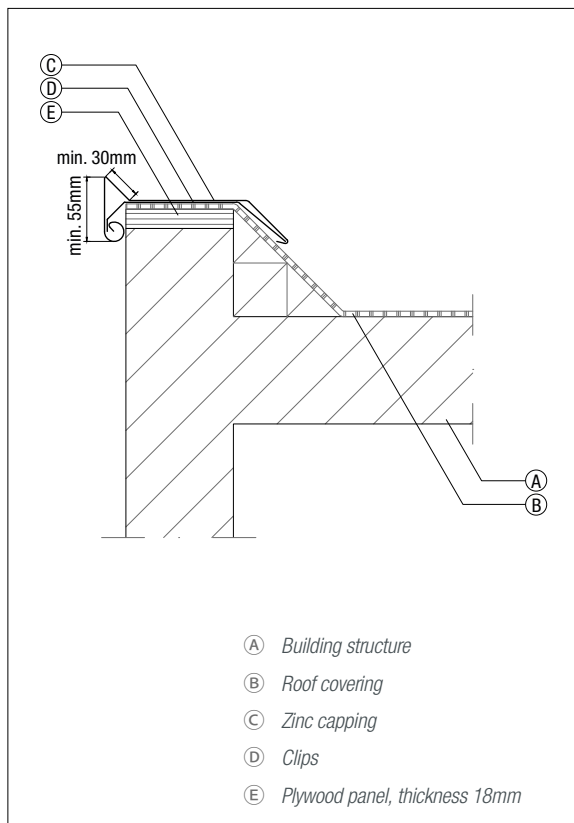

Figure 9.1.3 Zinc capping with ridge
- the upper surface of the zinc capping must slope down in the direction of the roof or must be provided with a rain ridge, see figure 9.1.3